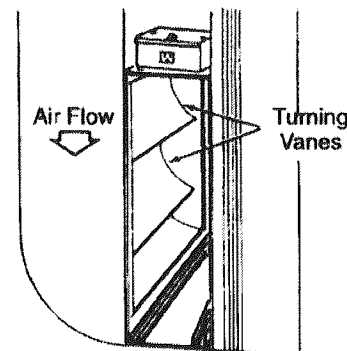

Figure 14
4. Using butt joint, attach duct work (normally an elbow) to the upstream side of air cleaner cabinet. (Note the use of the sheet metal turning vanes inside the elbow to improve air distribution over the face of the cells.) (Figure 14)